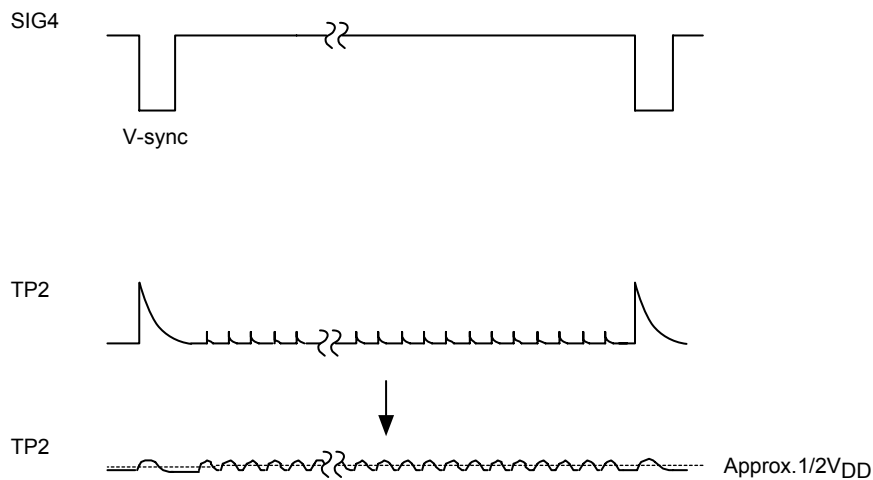

Fig.1-2 Horizontal AFC adjustment
Enter SIG4 ($V_L = 0\text{mV}$) to (A) and adjust VR1 so that the width of WL and WH becomes equal in the TP2 output waveform.(See fig 1-2.)